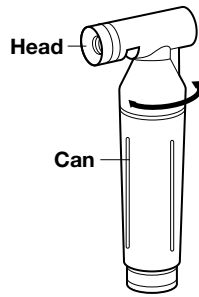

Figure 1. Parts of the Air Rush inflator
1. Unthread the head from the can of the inflator (Figure 1).